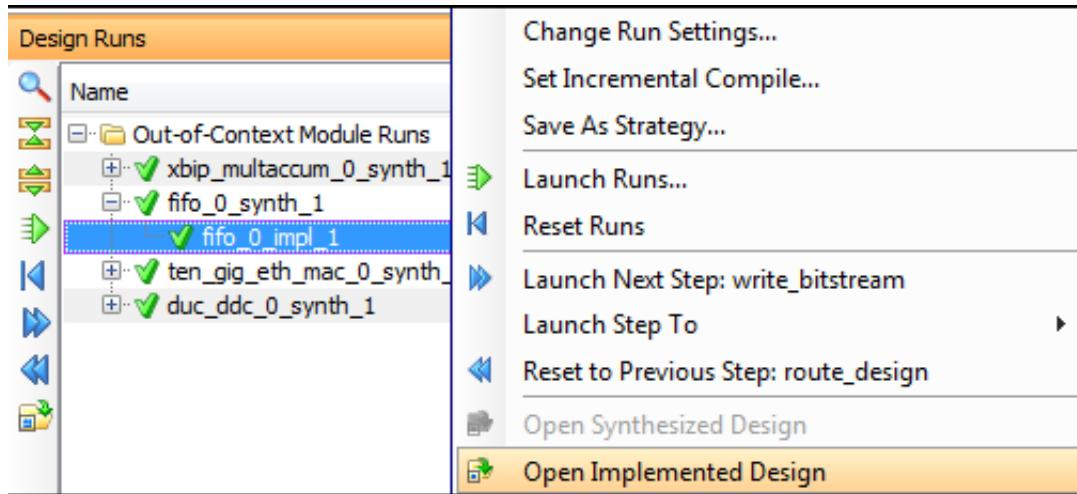

Figure 2-4: Opening an Implemented IP
2. After implementation completes, right-click the IP design run, and select **Open Implemented Design** to open the design for analysis, as shown in Figure 2-4.